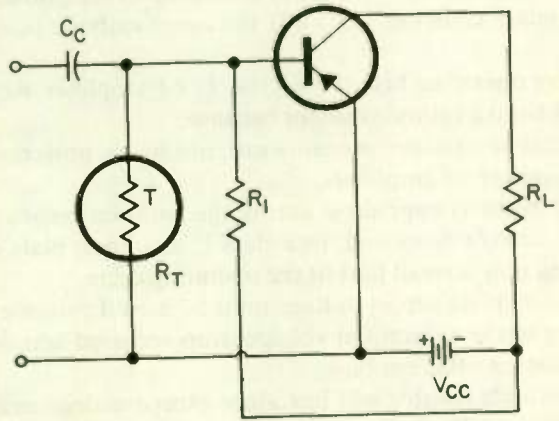

Fig. E.5
57. In the circuit shown in Fig. E.5, R_T serves to